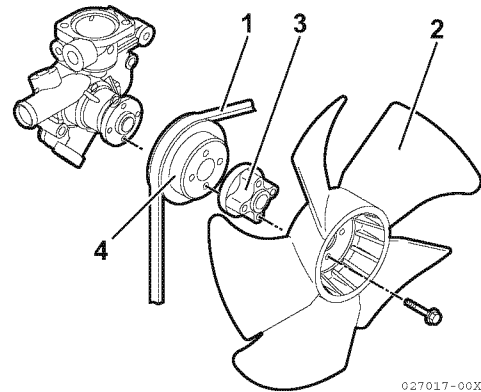

Figure 7-17
11. Install the coolant pump V-pulley (**Figure 7-17, (4)**), spacer (**Figure 7-17, (3)**) (if equipped) and engine cooling fan (**Figure 7-17, (2)**).
12. Install the cooling fan V-belt (**Figure 7-17, (1)**). Adjust as described in *Checking and Adjusting Cooling Fan V-Belt* on page 5-13.